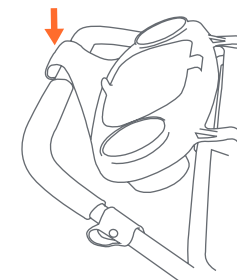

Fig. 7a
- 7) • **To attach parent tray:** Snap the upper portion of the tray over the handle (Fig. 7a).